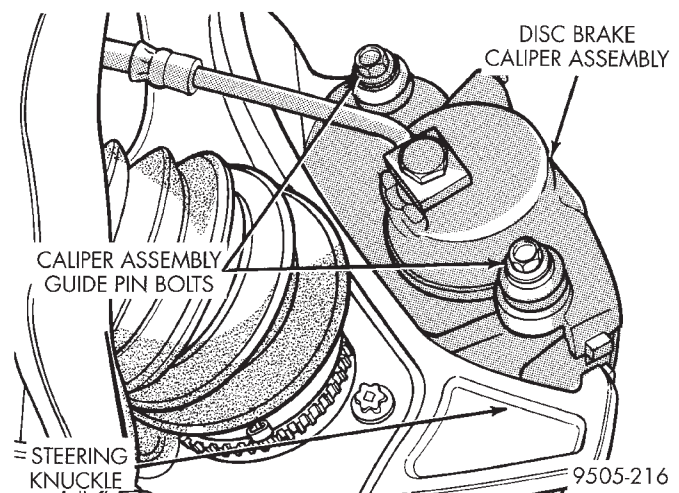

Fig. 3 Caliper Guide Pin Attaching Bolts
- (4) Remove front tire and wheel assembly from the hub.
- (5) Remove front disc brake caliper assembly to steering knuckle guide pin attaching bolts (Fig. 3).